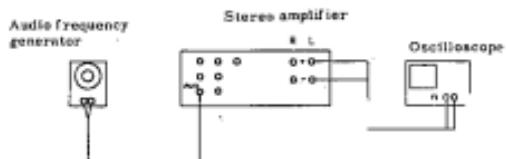

Fig. 4
The measurable part of the audio amplifier are the input terminal and the output terminal to the speaker, because it is difficult for the capacitance of the shielded wire to the input terminal to the oscilloscope. Generally, the output terminal to the speaker is affected little, for the impedance of the output terminal to the speaker is fully lower than the impedance of the shielded wire. (See Fig. 4.)
Connect the VERT INPUT terminals ⑦ and ⑧ to the output terminal to the speaker and the sine-wave from the audio frequency generator to the AUX terminal. Keep the amplitude of the sine-wave and change the frequency through its range. The frequency response at each frequency is represented as the amplitude on the CRT screen. (See Fig. 4)